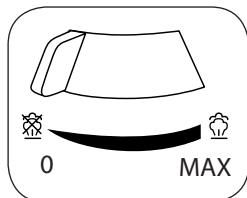

Fig 2
Set the steam control knob (B) onto "0" (Fig. 2).
When the iron temperature control lamp (F) turns off, turn the steam adjustment selector (B) on the required position. You get maximum steam dispensing by moving the selector to the "max" position. Steam is not dispensed when it is moved to "0" (Fig. 2).
Connect the plug into the socket. Set the steam control knob (B) onto "0" (Fig. 2). Set the temperature control knob (E) according to the type of fabric to be ironed. Wait a few minutes for the soleplate to reach the set temperature.